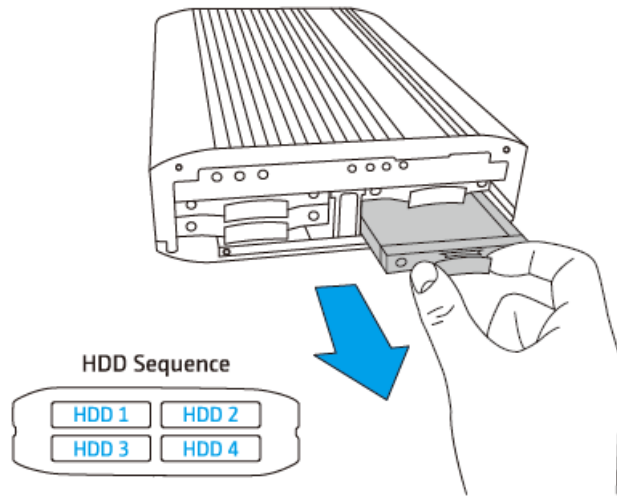

Figure 3-4: HDD Tray Removal
Step 2: Remove the hard drive tray (Figure 3-4).